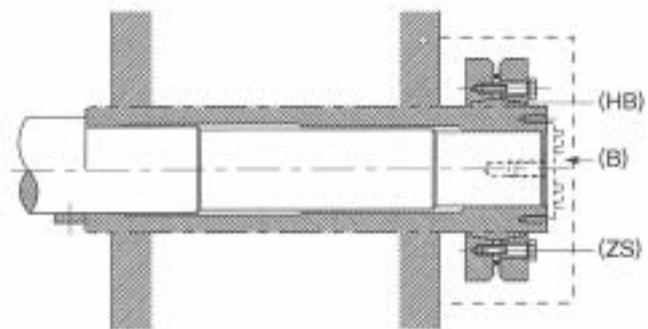

Fig. 6 Full mounted position
The shrink disc has a keyless shrink fit mechanism which shrinks hub (HB) mechanically through the tightening locking bolt (ZS), and holds shaft and hub as one fixture. (Fig. 6)
- (1) Clean and degrease contact surfaces (a) and (c).
- (2) Smear surface (c) with "Molykote 321" or its equivalent. However, keep surface (a) as clean as possible (no grease).
- (3) Slide O-ring (b) onto the shaft.
- (4) Mount the reducer on the driven shaft and screw nut (e) until faces (g) and (h) make contact.
- (5) Set the shrink disc (k) at dimensions (LV). Tighten locking bolt (ZS) at specified torque (TA) (using a torque wrench). Make sure that both plates are parallel when tightening bolts. After confirming that the shrink disc is set correctly, tighten the bolts with a wrench of appropriate length. Uniformly, tighten bolts clockwise (not diagonally) while keeping both plates parallel. It is recommended to tighten respective bolts by  $30^\circ$  each time.
Note 1. In case of a vertical type unit, mount a thrust washer (B) to prevent the reducer from moving when locking nut (ZS) is loosened. (Fig. 6)